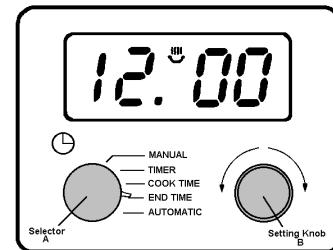
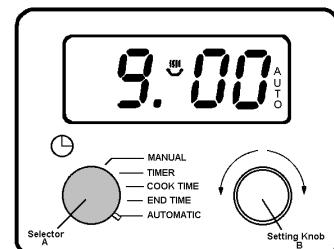

Fig.10
Fig.11
- iii) Turn the selector (A) to 'End Time'. The display will show 0.00 and the cookpot (炽) symbol will be lit. Turn setting knob (B) until the time is shown when you want the food to stop cooking e.g. 12.00 noon Fig. 10.
- vi) You may leave the selector (A) at the 'End Time'. This will display the amount of cooking time remaining.
Alternatively, turn selector (A) to 'Automatic'. The time of day will appear in the display. Fig 11. At any time you can turn the selector (A) to 'End Time' to see the time remaining.